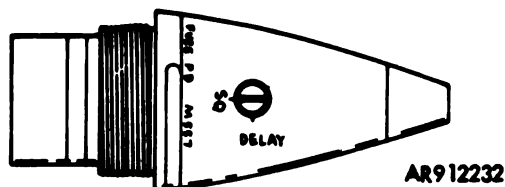

Figure 211.16. Point detonating fuze M557.
b. Fuze, Point Detonating, M557 (fig. 211.16). The M557 fuze has a selective superquick setscrew. It is packed set for superquick and has a booster attached. Duds may occur when set for delay functioning and fired with M3A1 green-bag charge.